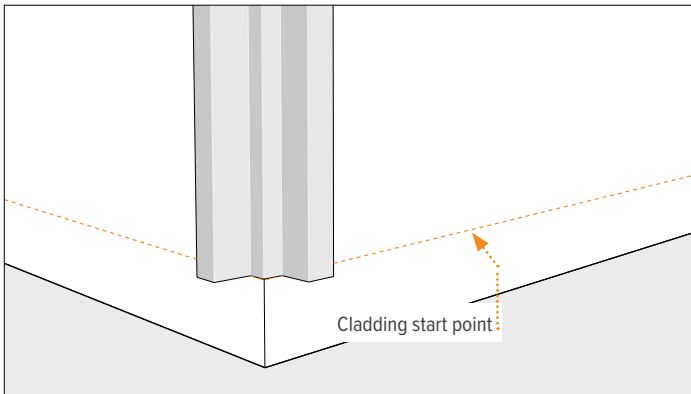

Figure 23.1
1. Place the bottom of the EZ.31 outside corner at the cladding start point and fasten. (Figure 23.1) (see **Fastening Info**).